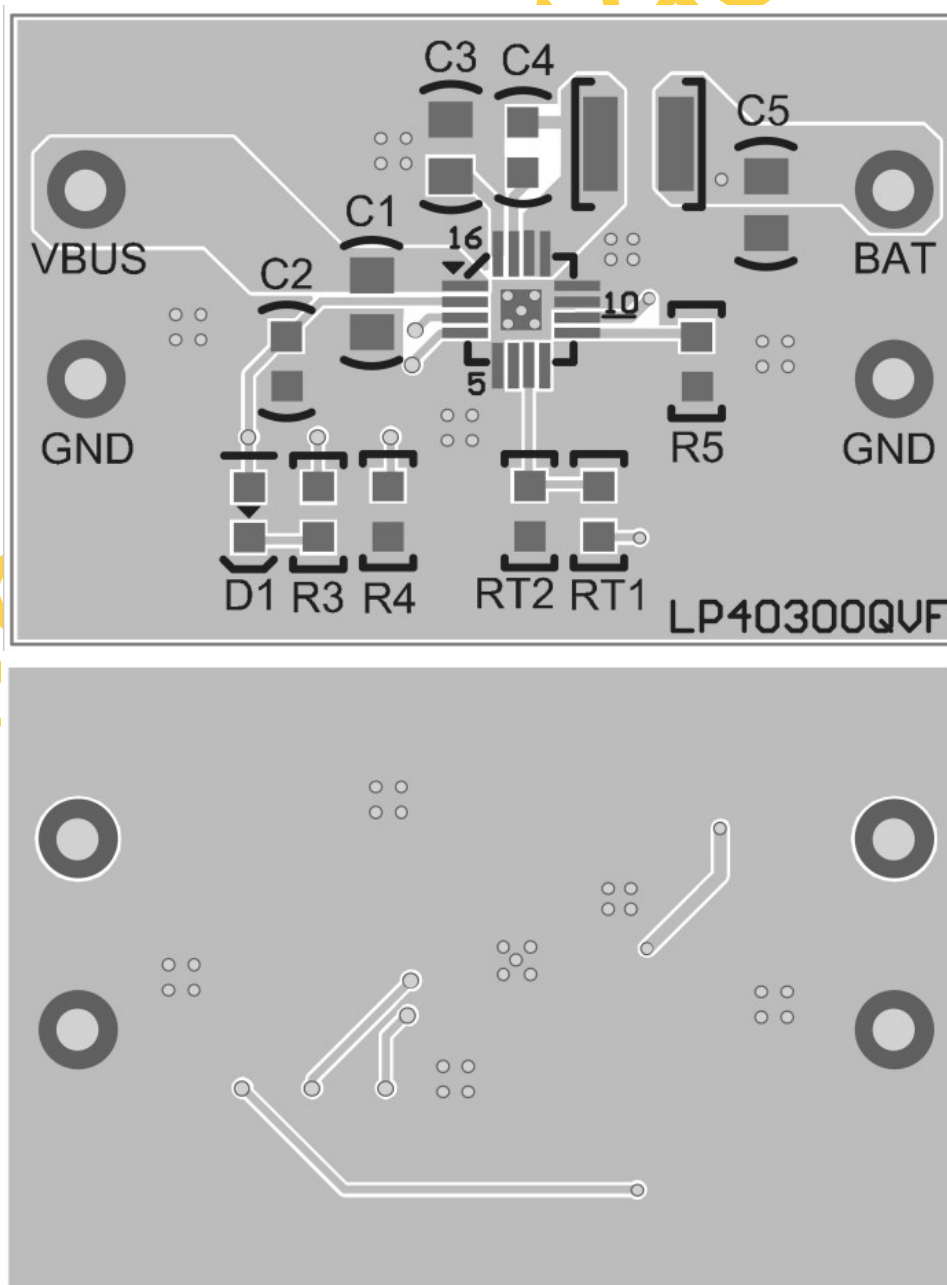

Figure 18. 2-layer PCB Layout Example (20mm x 10mm)
- An example of 2-layer PCB layout is shown in Figure 18.